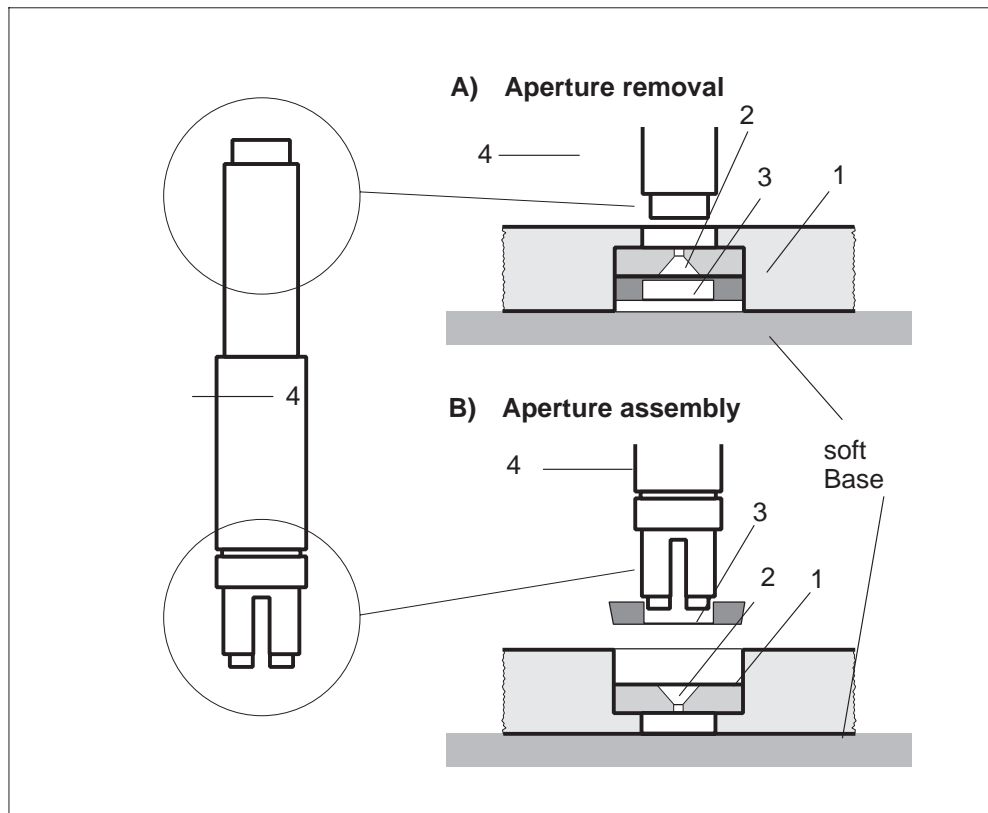

Bild 6-13: Aperture exchange
- Place aperture holder (1) on clean surface.
- With tool (4) press aperture (2) and spring ring (3) out of aperture holder (Fig. 6-13, A).
- Turn aperture holder (1) through 180° and place it on clean surface.
- Insert new apertures (2) (Fig. 6-13).
- Attach spring ring (3) and press down with tool (4) (Fig. 6-13, B).